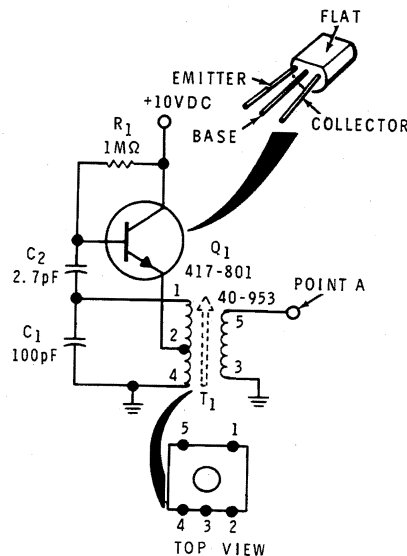

Figure 7-22
3. Turn the Trainer off and construct the circuit shown in Figure 7-22.